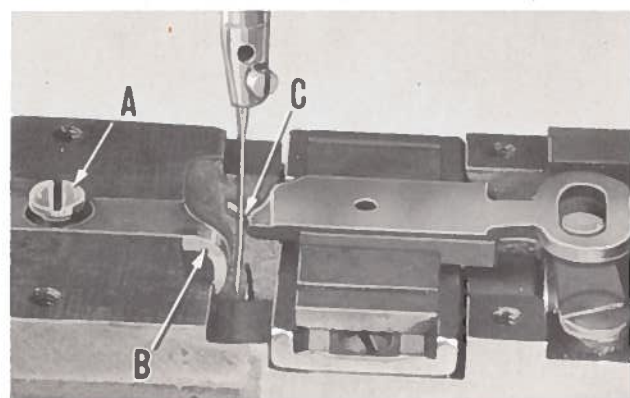

Fig. 8
NOTE: Fig. 8 shows the machine with needle plate, feed plate, and button clamp removed. This has been done for clarity only. These parts need not be removed to make the adjustments.
Loosen needle guard clamp screw (A, Fig. 8) and slide needle guard (B) forward. Insert a screw driver behind the loop positioning finger (C) and pull the finger forward. There should be only the slightest amount of clearance between the finger and needle, approximately .002 inch.
coincides with the timing line on the sleeve (F). Tighten screws in cam, making sure that the cam is against the sleeve. Turn the pulley in operating direction until the needle bar is at its lowest position, and slide the needle guard (B, Fig. 8) in the direction of the needle until there is a clearance of about .002 inch between it and the needle. Retighten clamp screw (A) securely.